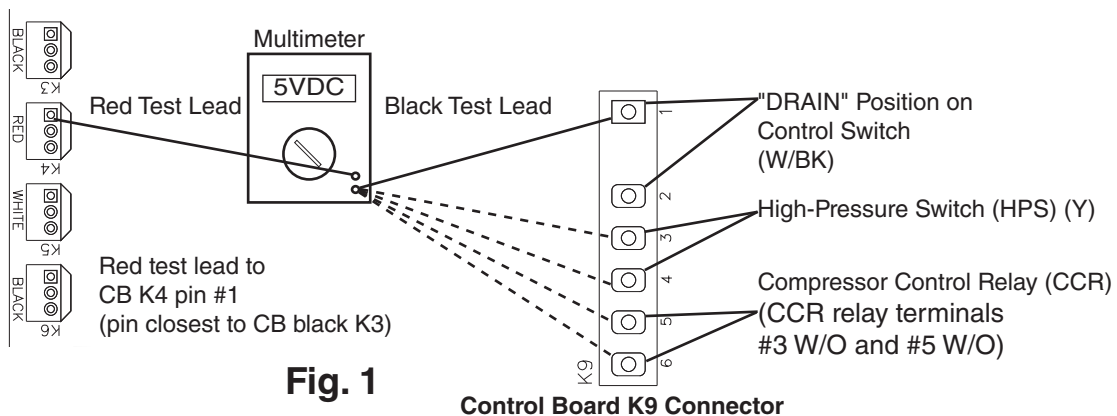

Fig. 1
- When checking for 115VAC high-voltage (primary), always choose a 115VAC neutral (W) to establish a good neutral connection.
- b) 2 circuits at CB K8 connector: Bin control (BC) and float switch (FS upper and lower).
- 2a) **5VDC CB K9 Connector:** See Fig. 1.